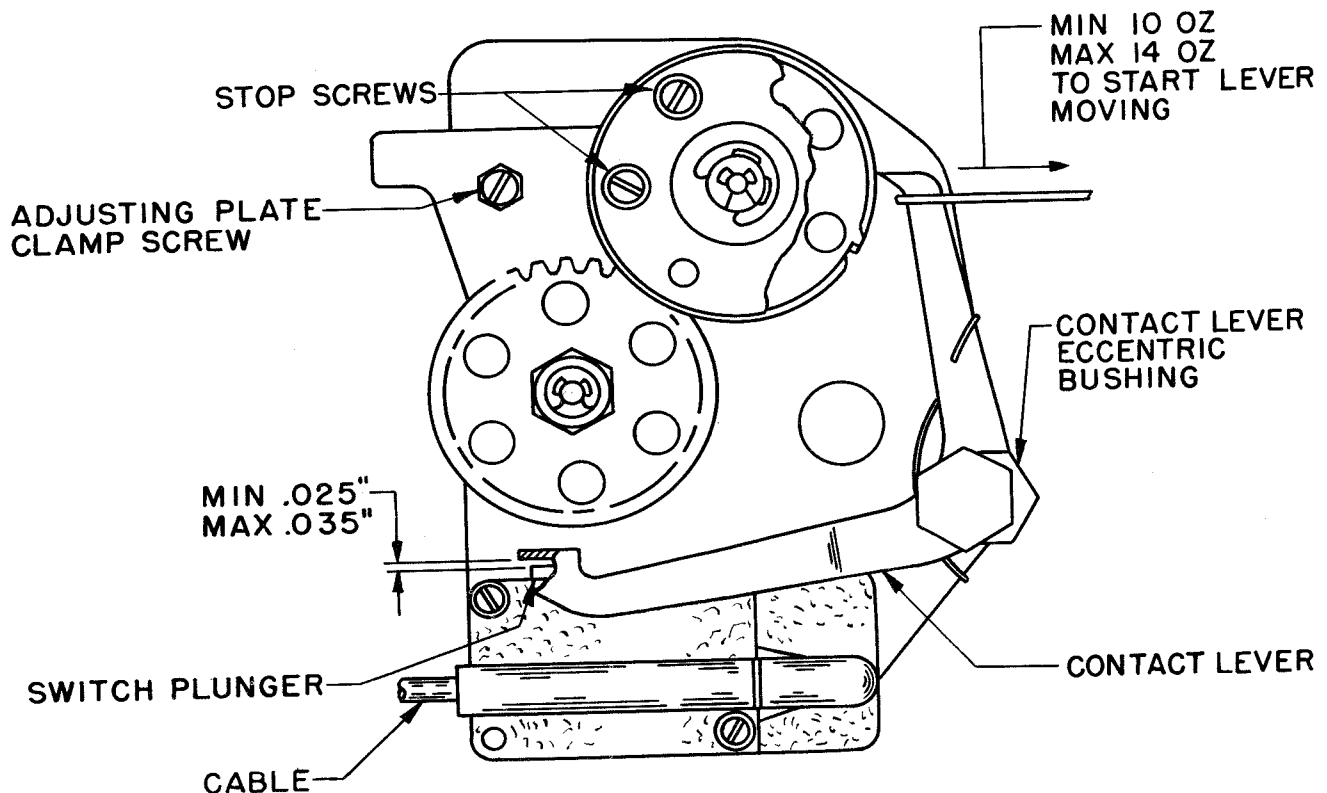

Figure 8
- (1) Loosen the gear-adjusting-plate clamp-screw and rotate plate. See Figure 8.
- (2) Retighten the clamp-screw.
4.03 Contact-lever Spring Tension: With the contact lever on the high part of the cam, apply a scale to the contact lever just below the cam-following surface. When pulling in a horizontal direction, it should require minimum 10 ounces, maximum 14 ounces to start the lever moving. See Figure 8.